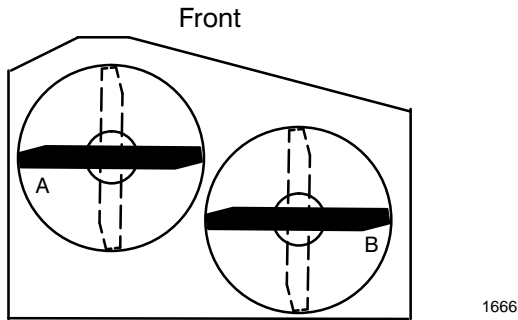
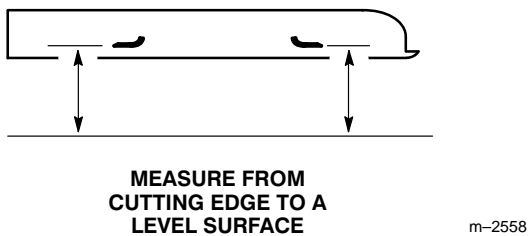

Figure 30
Figure 31
1. Rotate the blades until the ends face forward and backward (Fig. 30). Measure from a level surface to the cutting edge of the blades (Fig. 31). Note this dimension.